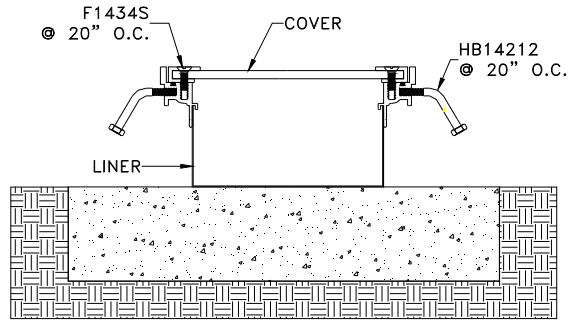

Figure 3
STEP 4. Assemble the trench cover on the support pad, splicing the liner and frame sections of the assembly in accordance with the procedures provided in the appropriate sections of these installation instructions (see Figure 3). Refer to the section of these instructions entitled "SPlicing TRENCH AND ACCESS COVER FRAMES" and the section of these instructions entitled "SPlicing TRENCH LINERS" for procedures for assembling the frames and liners. Place the trench cover into the assembled frame..